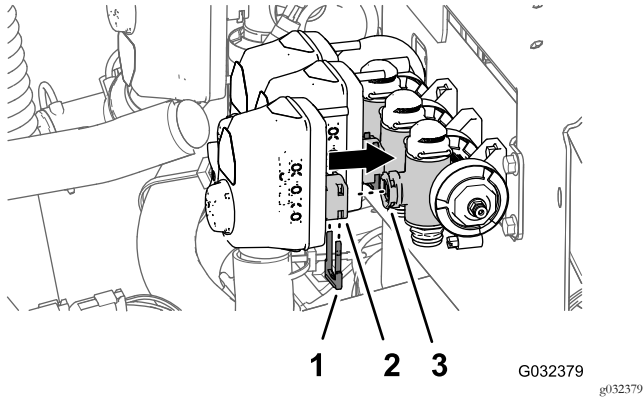

Figure 59
- Align the coupler of the section valve actuator that you removed in step 2 of Removing the Valve Actuator (page 26) with the stem port of the manifold valve (Figure 59).
- Secure the section valve actuator to the manifold valve with a retainer (Figure 59) that you removed in step 1 of Removing the Valve Actuator (page 26).